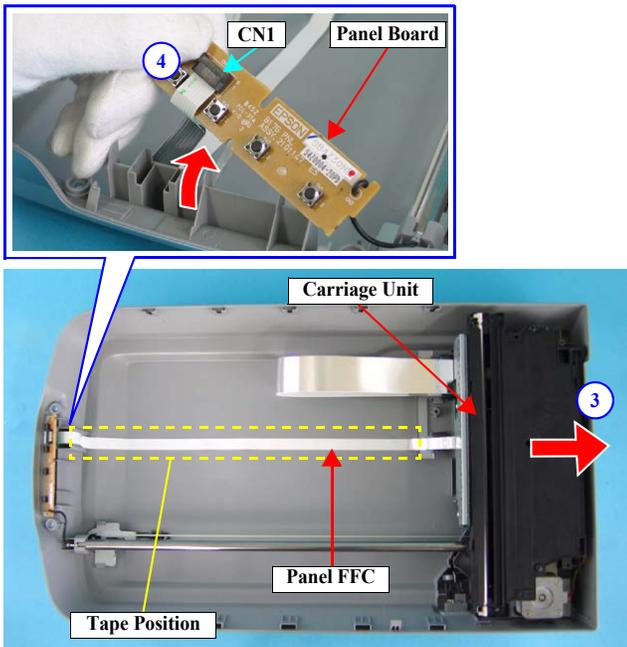

Figure 4-19. Removing the Panel FFC
- Secure the Panel FFC with a piece of two-sided tape at the position shown in Figure 4-19.